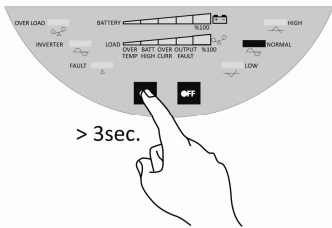
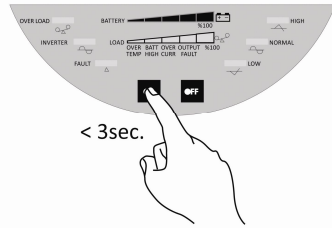

Figure 3.3
Figure 3.4
- b. Press ON button until an audible warning is heard, meanwhile observe that NORMAL LED is turned on (Figure 3.3). Along with audible warning, all LED lights flash and UPS starts up. Observe that battery indicator LED lights are on and briefly press ON button (Figure 3.4).